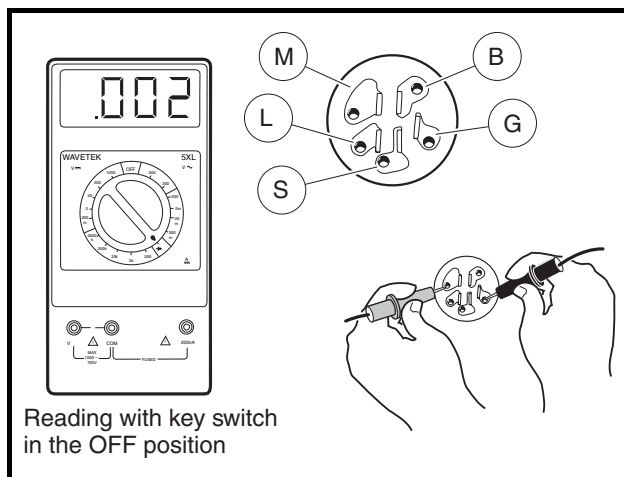

Figure 11a-24 Key Switch Test – Engine Kill Circuit
5. Place the red (+) probe on the (M) terminal and the black (–) probe on the (G) terminal. With the key switch OFF, the reading should indicate continuity. With the key switch ON, the reading should indicate no continuity. If either reading is incorrect, replace the key switch (Figure 11a-24, Page 11a-29).